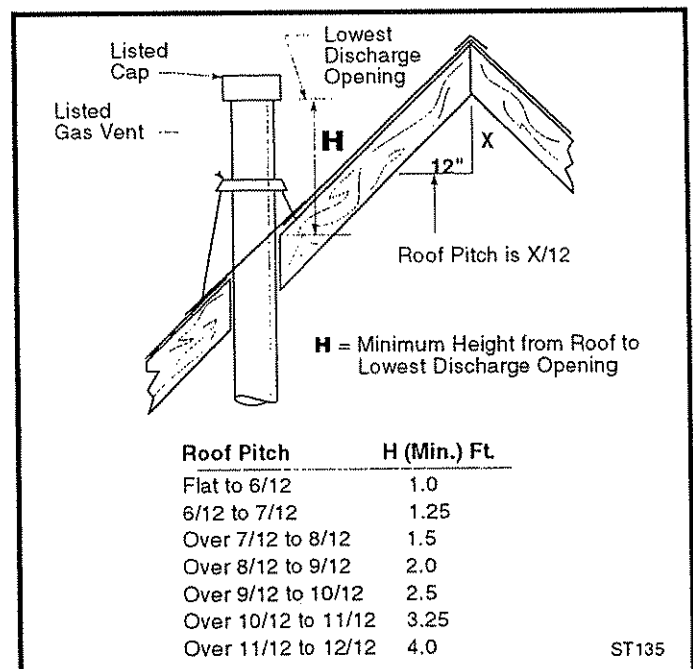

Fig. 8 Vent (Chimney) Height
- Termination height must conform to roof clearance as specified in Fig. 8.